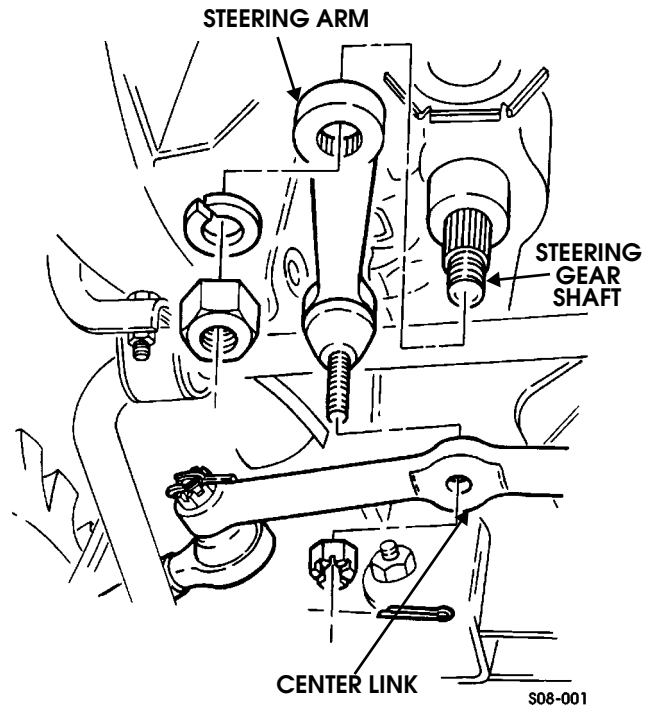

Figure 8-2: Steering (Pitman) Arm Removal
4. Remove nut and lockwasher from steering gear shaft. Using suitable size puller, remove steering arm from steering gear shaft (Figure 8-2).